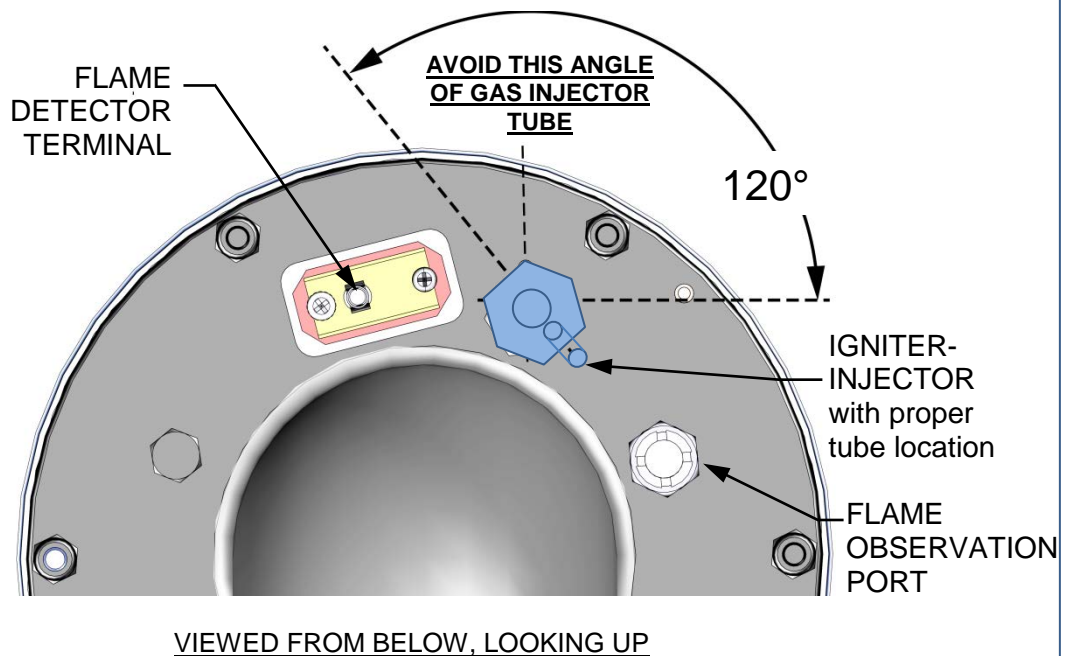

Figure 6-2. Igniter-Injector & Flame Detector Mounting Details
- Refer to Figure 6-2 and reinstall the igniter-injector on the intake manifold flange. Install one to three clocking washers, as needed, to position the igniter-injector's gas tube so that it is pointing outward, toward the outer-edge of the intake manifold flange. Torque to 15 ft.-lbs (20.34 Nm). Do not over tighten.
5. Disconnect the lead wire from the flame detector installed on the intake manifold flange (Figure 6-2).